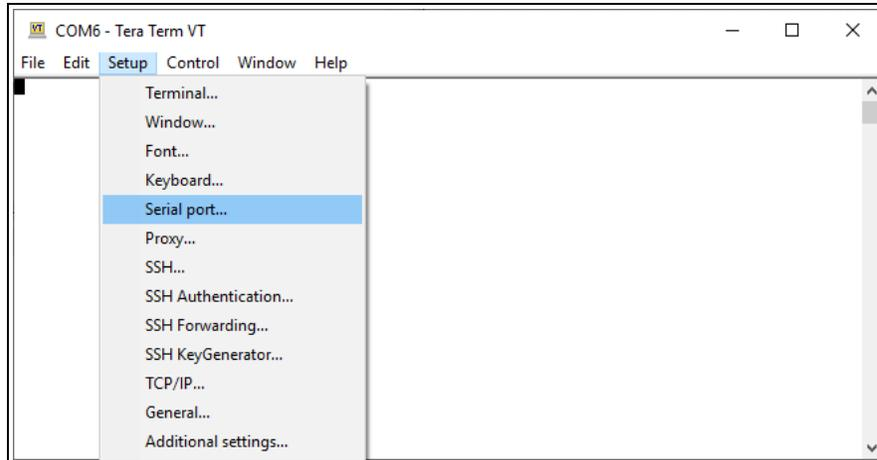

Figure 230: Setup menu > Serial Port
5. In the **Tera Term** window, click the **Setup** menu and select **Serial Port**. Figure 230